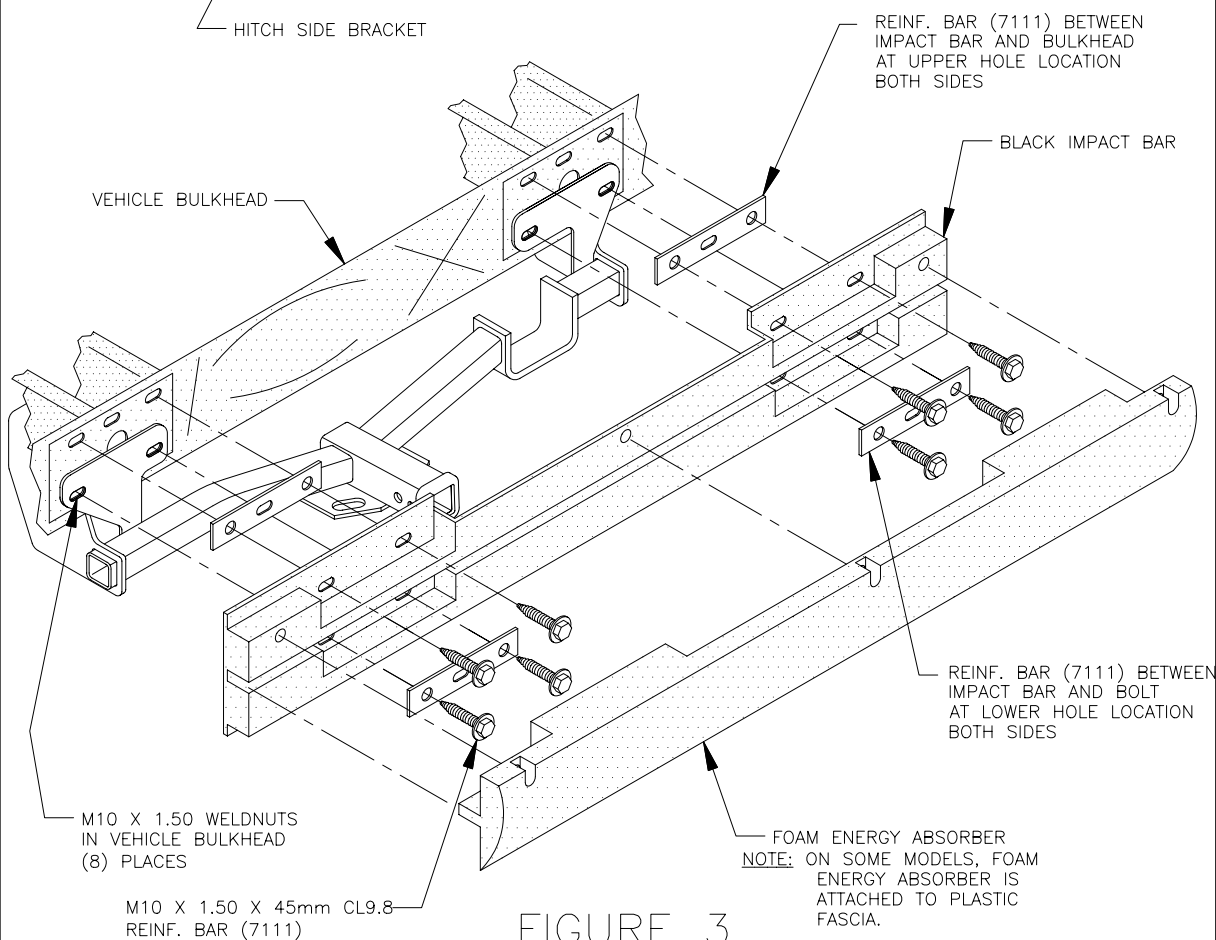

FIGURE 3
- RAISE BLACK IMPACT BAR INTO POSITION, ALIGNING SLOTS IN IMPACT BAR WITH SLOTS IN HITCH UPRIGHT BRACKETS AND WELDNUTS IN VEHICLE BULKHEAD. ATTACH IMPACT BAR USING (4) 1/4 X 1 1/2 X 7 1/2 REINFORCEMENT BARS (7111) AND (8) M10 X 1.50 X 45mm CL10.9 BOLTS PROVIDED WITH HITCH AS SHOWN IN FIGURE 3.
NOTE: INSTALL 1/4 X 1 1/2 X 7 1/2 REINFORCEMENT BAR (7111) BETWEEN BULKHEAD AND BLACK IMPACT BAR TO ACT AS A SPACER AT UPPER HOLE LOCATION, BOTH SIDES. INSTALL REINFORCEMENT BAR BETWEEN IMPACT BAR AND BOLT AT LOWER HOLE LOCATION, BOTH SIDES. SEE FIGURE 3 FOR PROPER ORIENTATION.